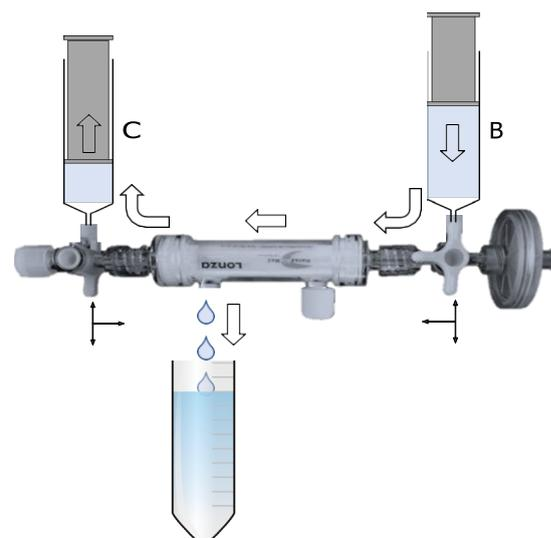

Fig 4
- Rotate the valve 3 to the position indicated in figure 4.
- Insert a new clean syringe (C) in position 5.
- Set a permeate collection tube under the nozzle in position 4b, as indicated in figure 4.